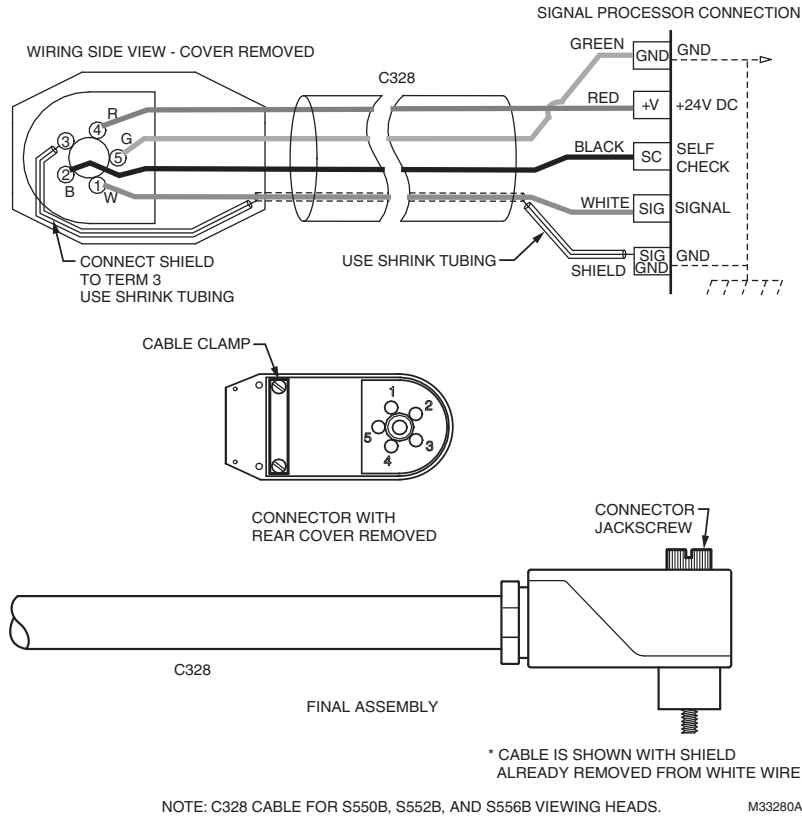
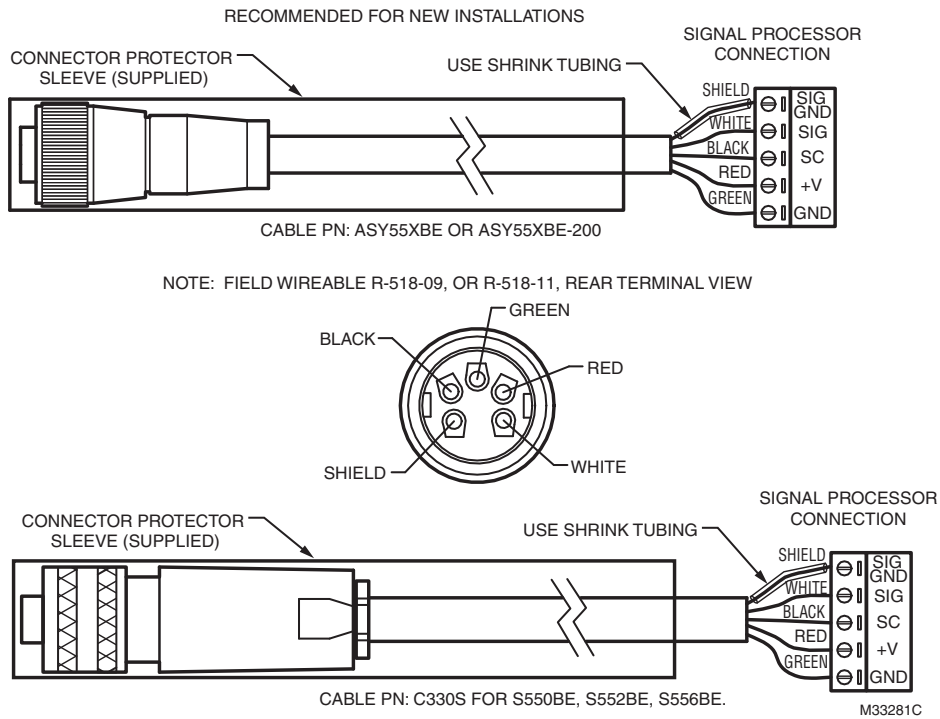

Fig. 3. Cable & Connections for the S550B, S552B, and S556B viewing heads.
Fig. 4. Cable & Connections for the S550BE, S552BE, and S556BE viewing heads.
See Fig. 4 for S55xBE connections, and Fig. 3 for S55xB connections.
Connection of the Honeywell type cable to the field wireable plugs is shown in Fig. 3 and 4, and should be done as follows:
9. Proceed to wire the connector as follows: (Refer to Fig. 3 and 4 for terminal locations.)
The cable at the signal processor end should be prepared in a similar way to the plug end. Follow the wiring connections as shown in Fig. 3 and 4, making sure that the shield does not touch the other adjacent terminals.